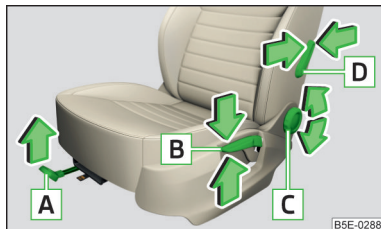

Fig. 66
Control elements at the seat » Fig. 66
- Pull the lever **A** » Fig. 66 in the direction of the arrow and push the seat in the required direction.
- Again push or pull the lever **B** » Fig. 66 in the direction of one of the arrows.
- Push the lever **C** » Fig. 66 in the direction of one of the arrows.
- Push the lever **D** » Fig. 66 in the direction of one of the arrow.